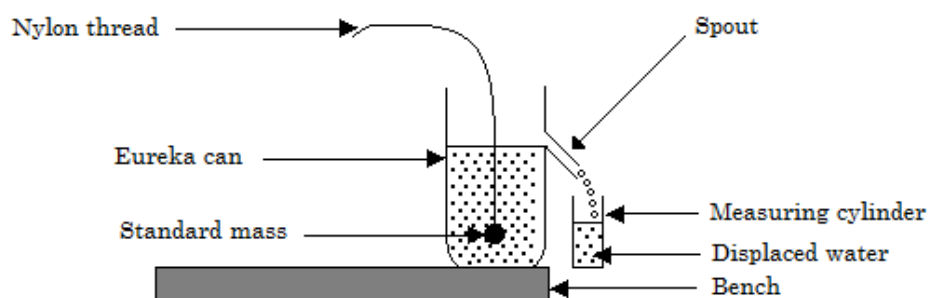

Figure 1
- (b) Hold a suitable measuring cylinder under the spout and immerse a standard mass of 50 g into eureka can as shown in Figure 1. Water will pass through the spout and will be collected by the measuring cylinder. Wait for it to drop until it starts to cease and take long interval to drop. Record the reading of the water collected.